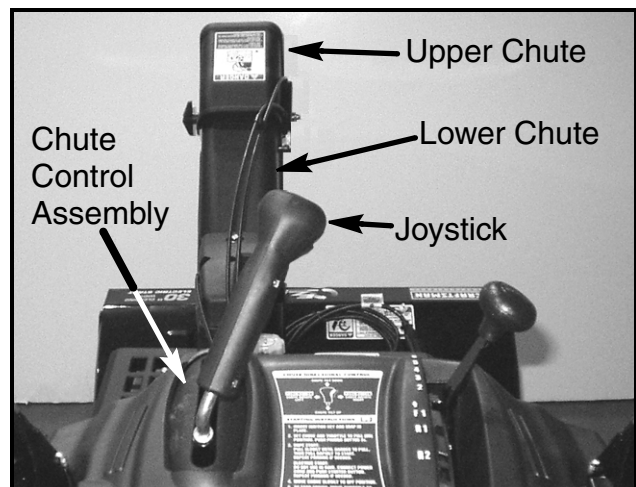

FIGURE 3
- At the chute control assembly joystick, depress the red trigger and position the chute as shown in Figure 3.
NOTE: The joystick will be angled slightly to the right, about the 1 o'clock position. See Figures 3 and 19.